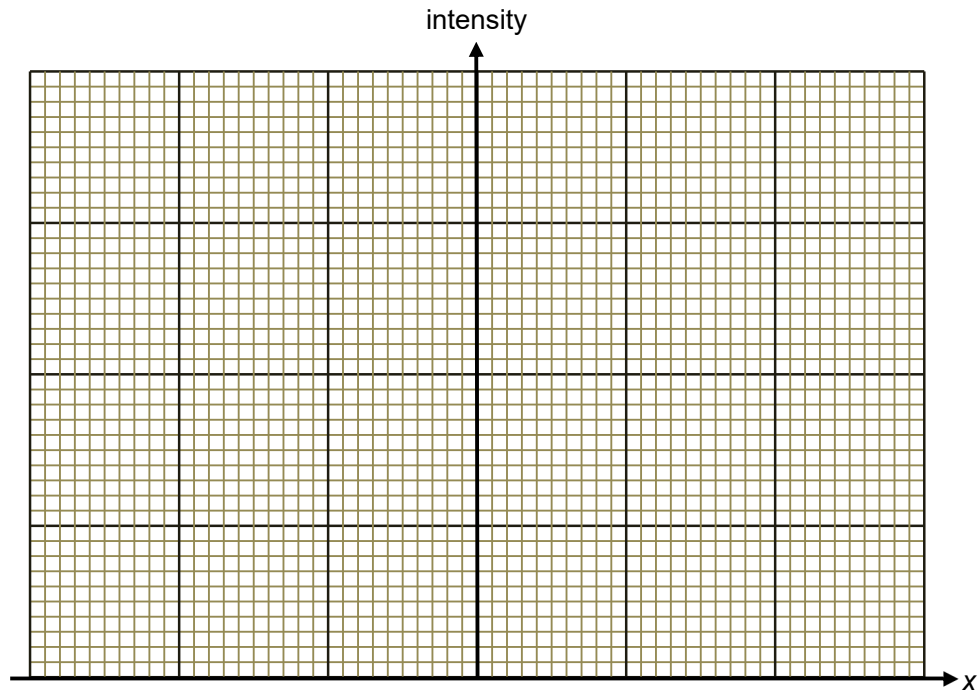

Fig. 21.2
- (ii) On Fig. 21.2, sketch the variation with distance x from the centre of the interference pattern of the intensity observed on the screen up to the fourth order maxima on both sides of the centre.
- (ii) On the horizontal axis of Fig. 21.2 mark the approximate position of point P. Label it with the letter "P".